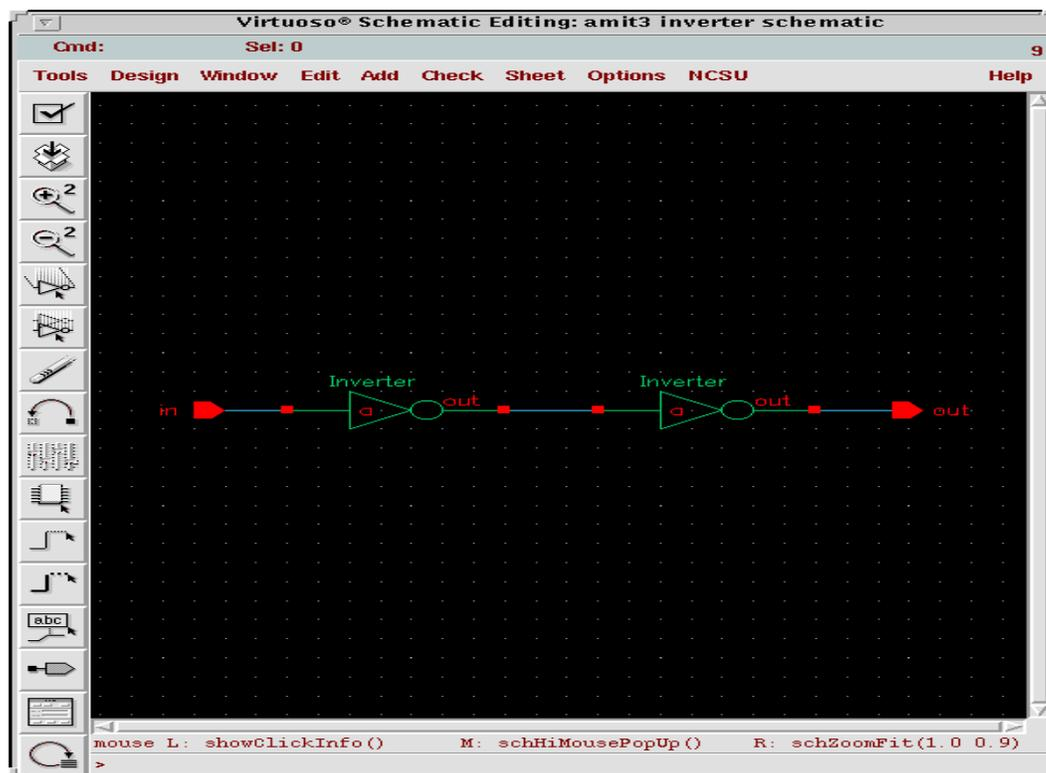
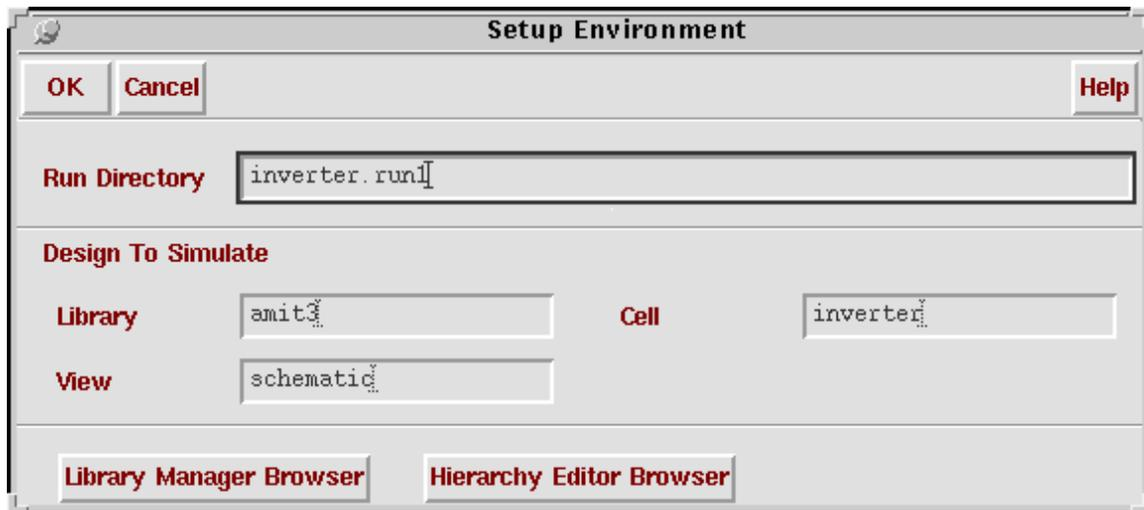

Fig 1: Inverter
Fig 2: Setup Environment
From the Library manager read the inverter schematic cell view. Save the schematic. The inverter schematic is shown in Fig 1.
- a. In Fig 1 select *Tools* → *Simulation* → *Verilog - XL*. The “Setup Environment” window opens as shown in Fig 2.
- b. In Fig 2, enter inverter.run1 in the **Run Directory** text box. All other default values are correct. Click **OK**.